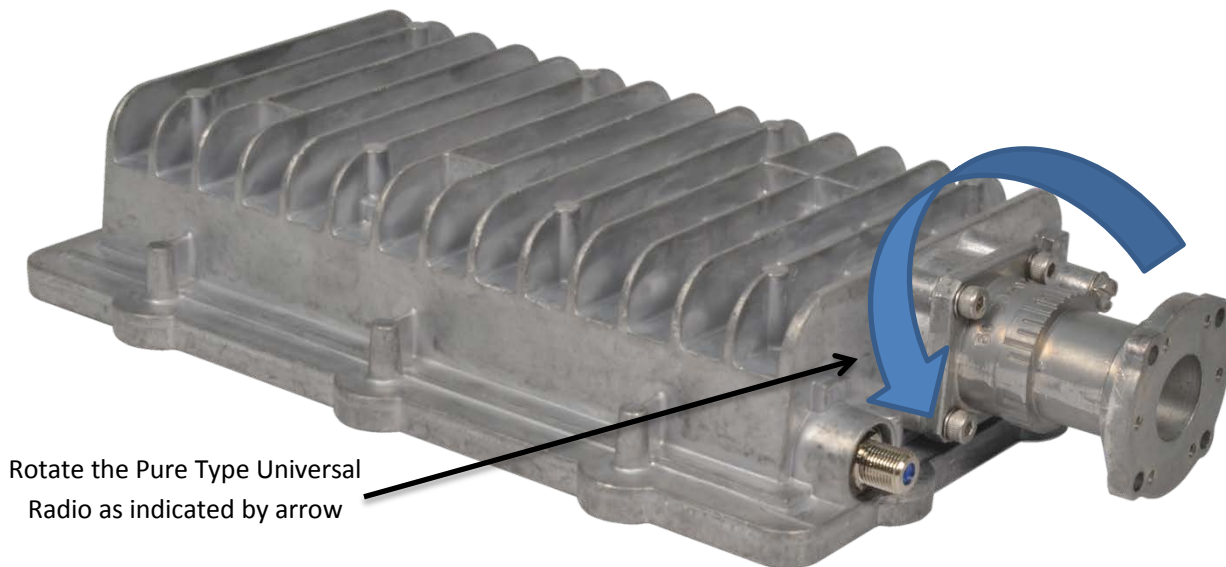

Figure 14: Rotating the radio to Horizontal Polarization
12. Rotate the Universal radio until it is horizontal as shown in Figure 14.